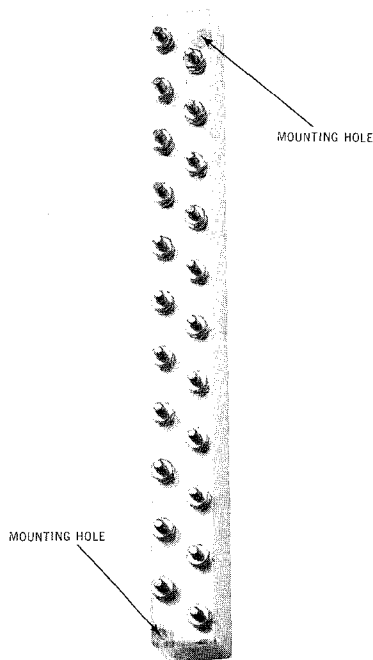

Fig. 11 — Connecting Block 5555
3.09 The *Connecting Block 5555* (Fig. 11) is an eleven pair terminal connecting block. The mounting holes are at the top right corner and the bottom left corner. It is used to mount 60 type fuses where several circuits require sneak fuse protection.